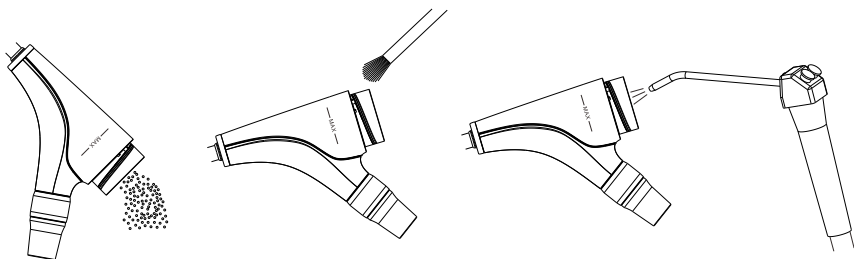

Figure 11 Powder cleaning
1. Powder cleaning (See figure 11)